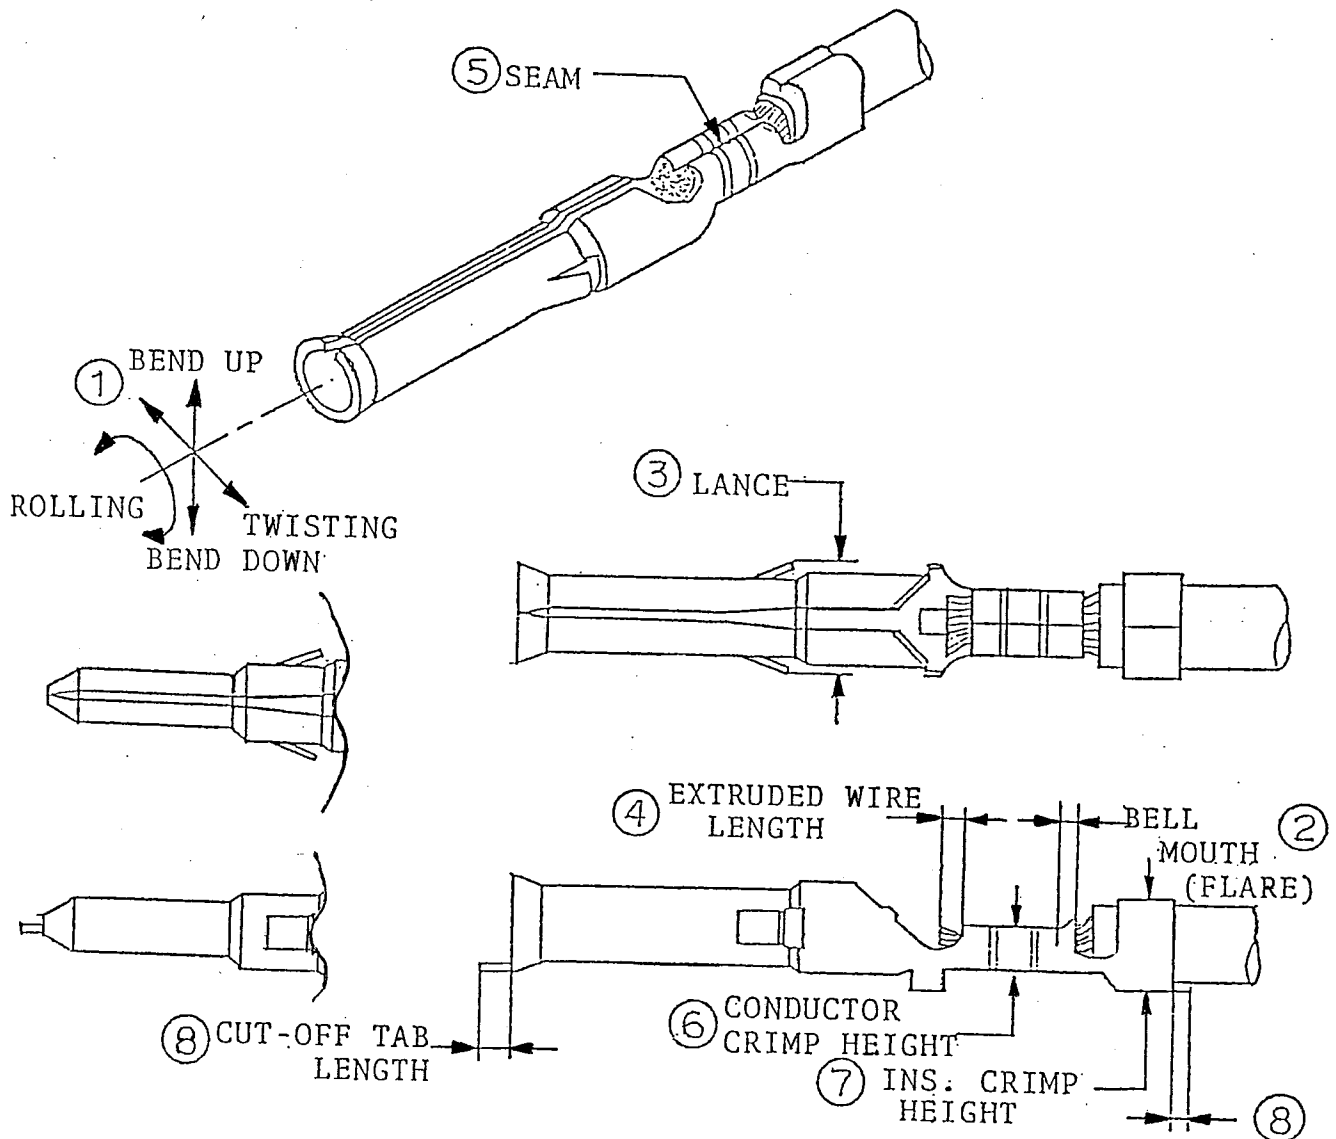

FIG 1
| NO.OF FIG.1 | ITEM | REQUIREMENT |
4. CONDITIONS. (⑥ and ⑦ of FIG.1)
5. CONDITIONS. (⑥ and ⑦ of FIG.1)